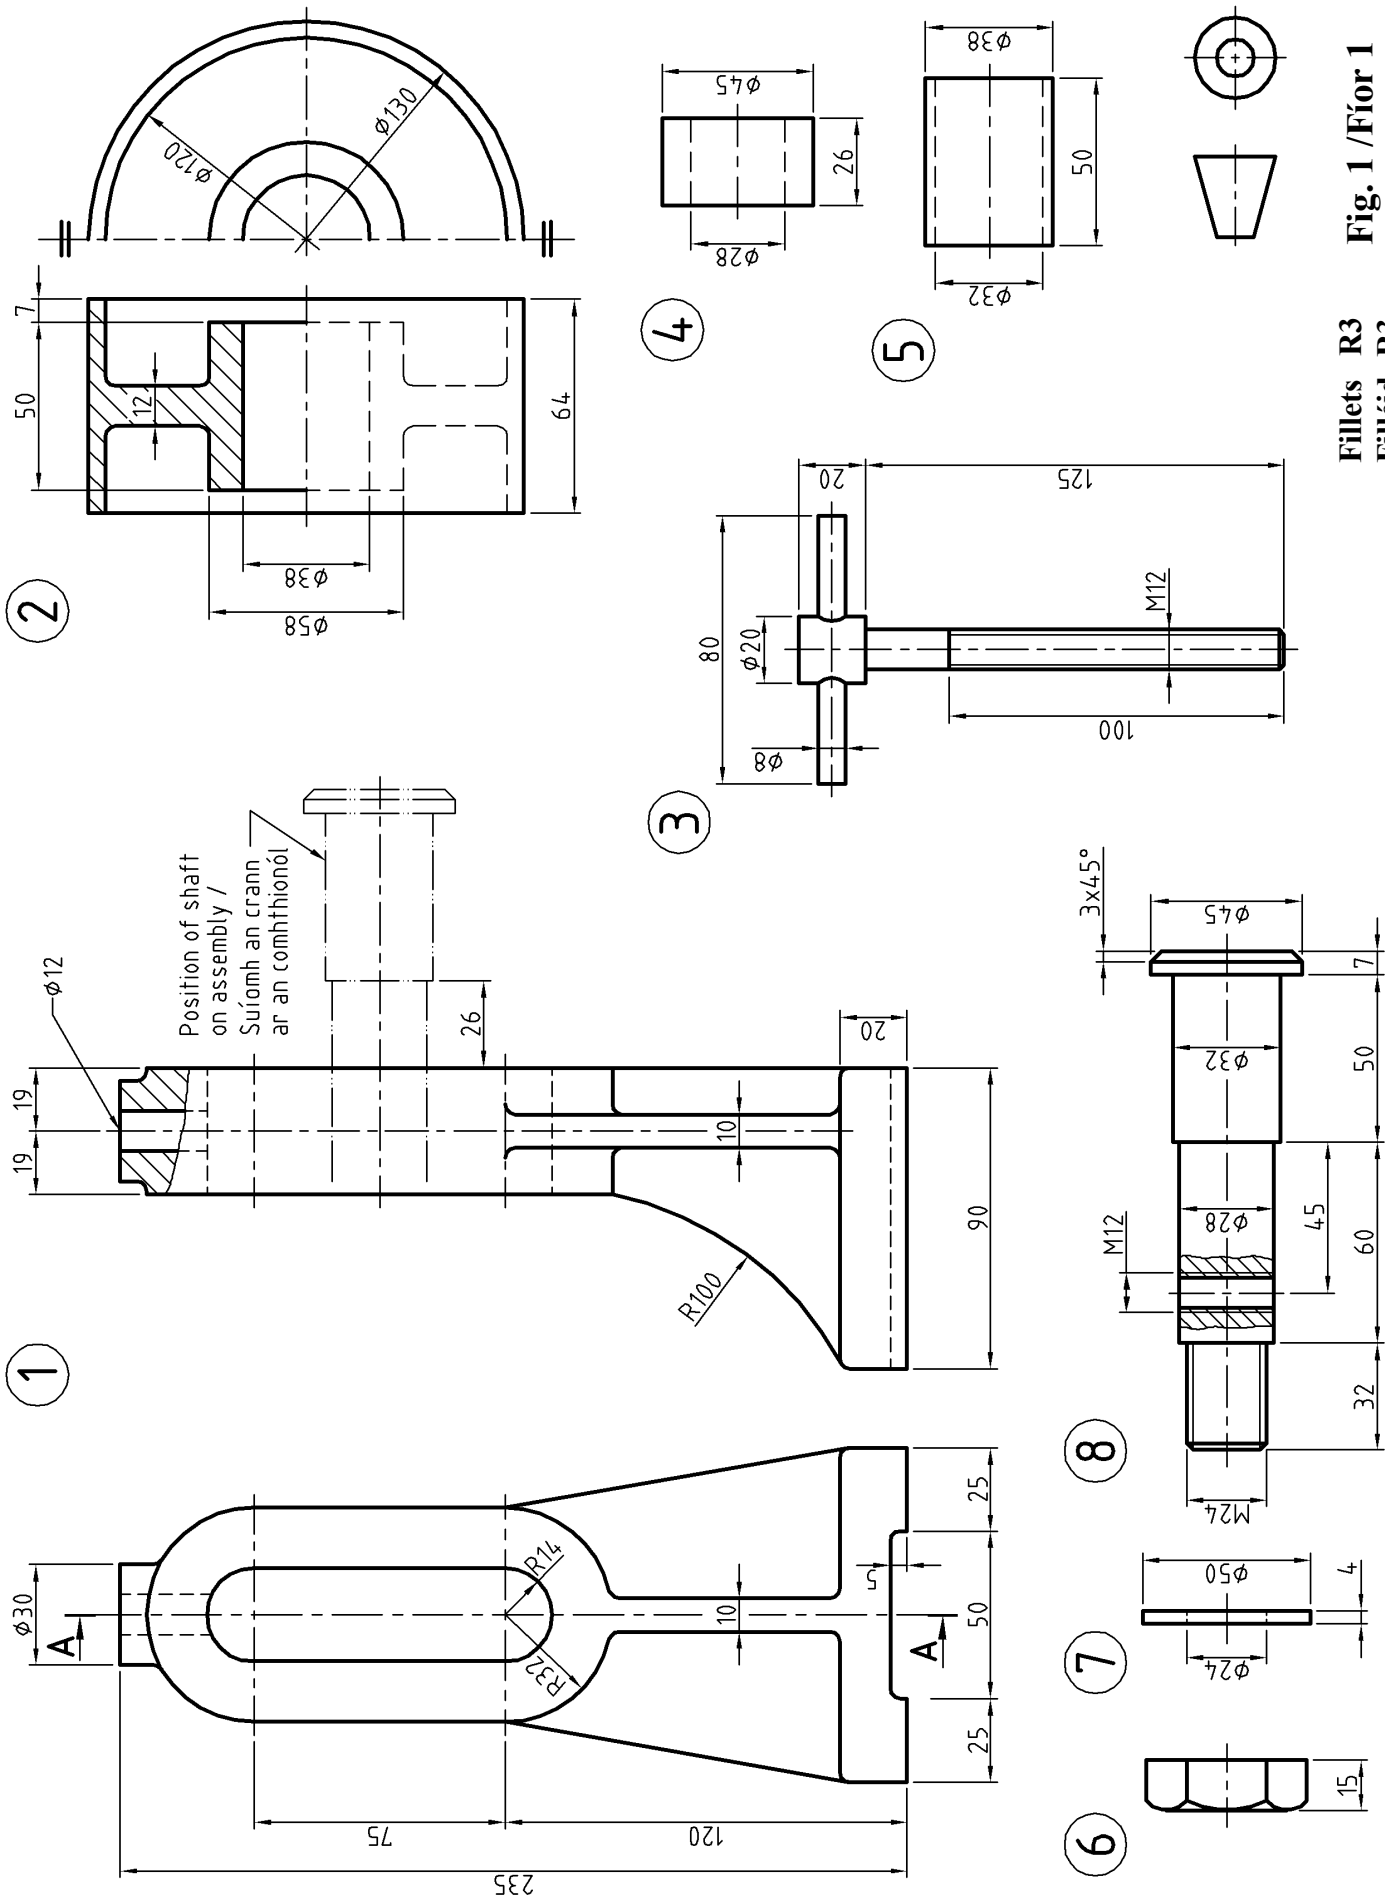

Fig. 1 / Fíor 1
1. Details of an Adjustable Pulley are given in Fig. 1 with a parts list tabulated below.